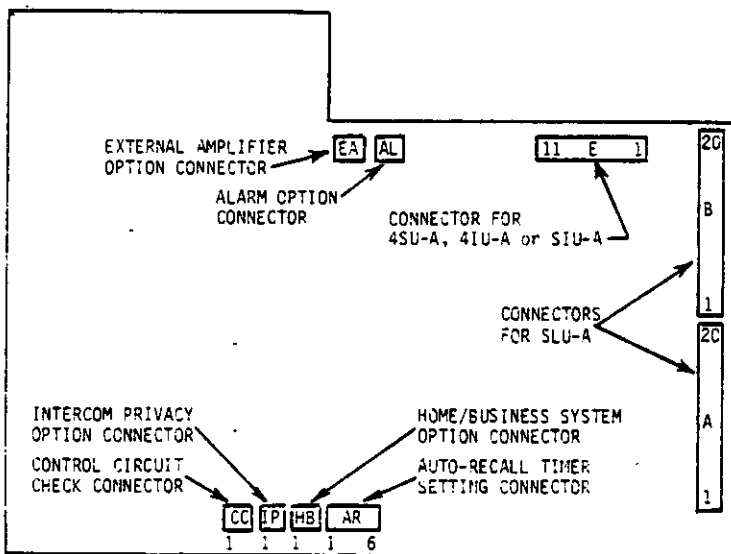

FIGURE 4 - CONNECTORS ON CPU-A CARD
4.29 Strap the IP connector (see figure 4) on the CPU-A board as follows:
4.31 Strap the AR connector (see figure 4) on the CPU-A board as follows to provide the desired 'time-to-recall' period:
may be strapped to transmit an alert tone to stations busy on C.O. calls whenever the all-call circuit is used. This tone is normally provided in home installations and is NOT provided in business installations. The HB connector (see figure 4) on the CPU-A card is strapped as follows for all-call alert tone:
4.48 The KSU may be strapped to transmit all-call announcements only, or all-call announcements and background music to the external paging system. This strapping is performed on the EA connector (see figure 4) on the CPU-A card.
4.51 Alarm Signal Repeating: The EK-308 system may be used to transmit an alarm signal to every station in the system. When activated by an external alarm system, a high pitched warbling tone is transmitted to the stations. Strapping of the KSU permits this alarm signal to be activated by either an open circuit or a closed circuit on the external alarm leads. This strapping is accomplished on the AL connector (see figure 4) of the SLU-A card.